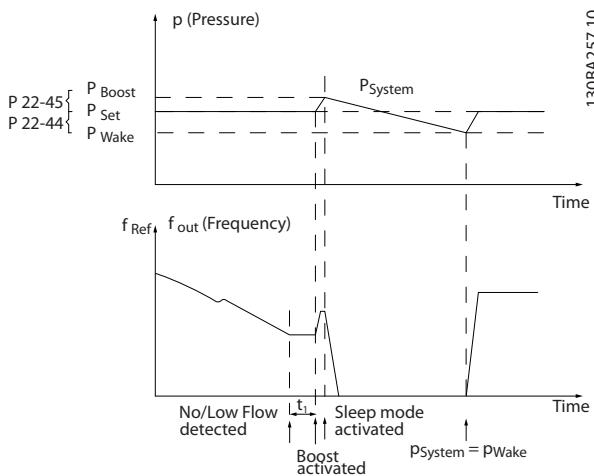

Figure 3.67 Boost System with Pressure Feedback
*Figure 3.67* shows a boost system.